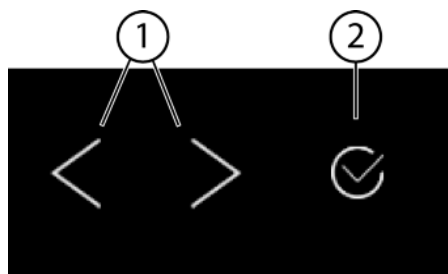
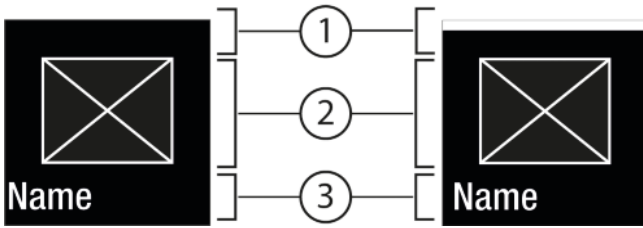
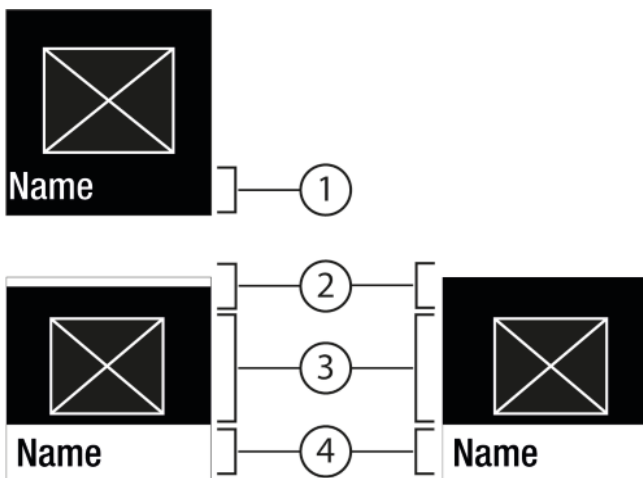

Fig. 5
Fig. 6
Fig. 7
(1) Navigation arrow left/right
(2) Confirm
Navigation arrow left/right Fig. 5 (1):
Confirm Fig. 5 (2):
- Press the left/right Fig. 5 (1) arrow to navigate.
- Press Confirm Fig. 5 (2) to activate Fig. 6 (1) / deactivate Fig. 6 (1) the function.
- Press Confirm Fig. 5 (2) to open the submenu Fig. 7 (4).
- Set a new value: Press Confirm Fig. 5 (2) to select an active value Fig. 6 (1).
- Back to the menu: Press Confirm Fig. 5 (2) to select the active value Fig. 6 (2).
- ▶ Press the navigation arrows Fig. 5 (1) until the appears.
- ▶ Press Confirm Fig. 5 (2).
- ▶ Press the navigation arrows Fig. 5 (1) until the function appears.
- ▶ Press the navigation arrows Fig. 5 (1) to select the setting value.
- ▷ Status: On Fig. 6 (1) appears briefly in the submenu Fig. 7 (4).
- ▶ Press the navigation arrows *Fig. 5 (1)* until Settings  appears.
- ▶ Press Confirm *Fig. 5 (2)*.
- ▶ Press the navigation arrows *Fig. 5 (1)* until you see the setting you want.
- ▶ To Confirm *Fig. 5 (2)*, press for 3 seconds.